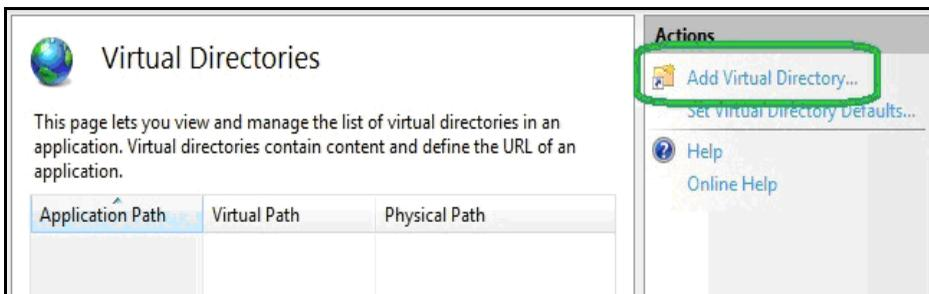

FIGURE 2-6 IIS Services Manager - Add Virtual Directory
Step 8 Click **Add Virtual Directory**, as shown in **FIGURE 2-6**.